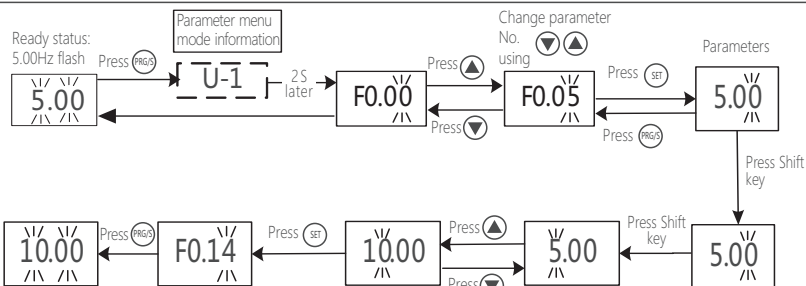

Figure 7-12 Parameter setup in Simple menu mode
a) See Figure 7-12 for function parameter setup in Simple menu mode: